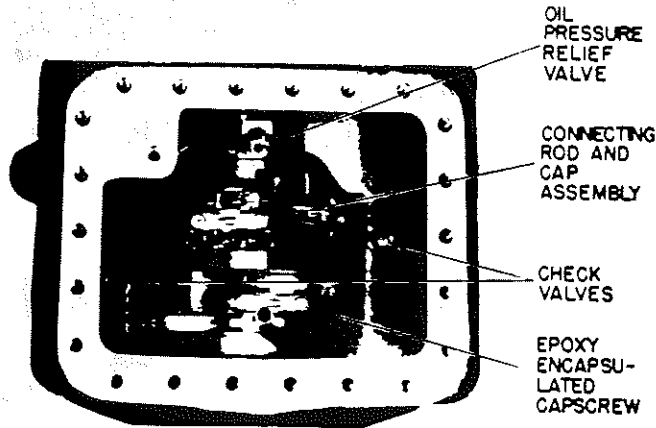

Figure 3-5. Bottom Plate and Oil Strainer Removed
c. Match mark each connecting rod cap and connecting rod for correct reassembly. Remove the capscrews, flat washers and connecting rod caps. It is recommended that the capscrews and flat washers be discarded and new capscrews (special) and flat washers be installed during compressor reassembly. (See figure 3-5.)
- d. Remove and check operation of the oil return check valves. (See figure 3-5, page 3-3.) The check valves are free-floating devices and can easily be checked visually.
a. Check operation and reinstall check valves and relief valve. (See figure 3-5). The check valves are free-floating devices and can easily be checked visually. The relief valve is a spring-loaded device which can be checked by using a small piece of stiff wire to ensure that the spring mechanism can be depressed.